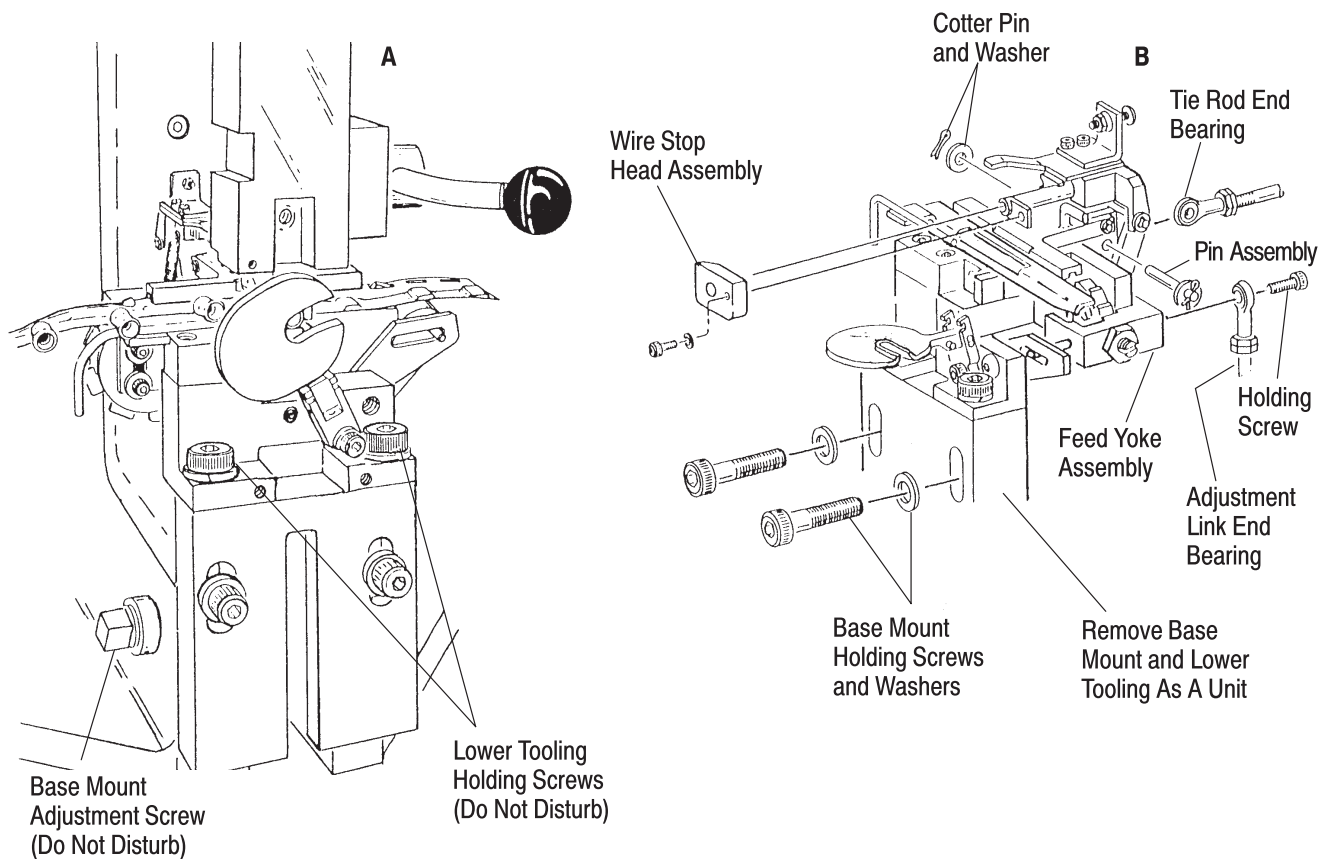
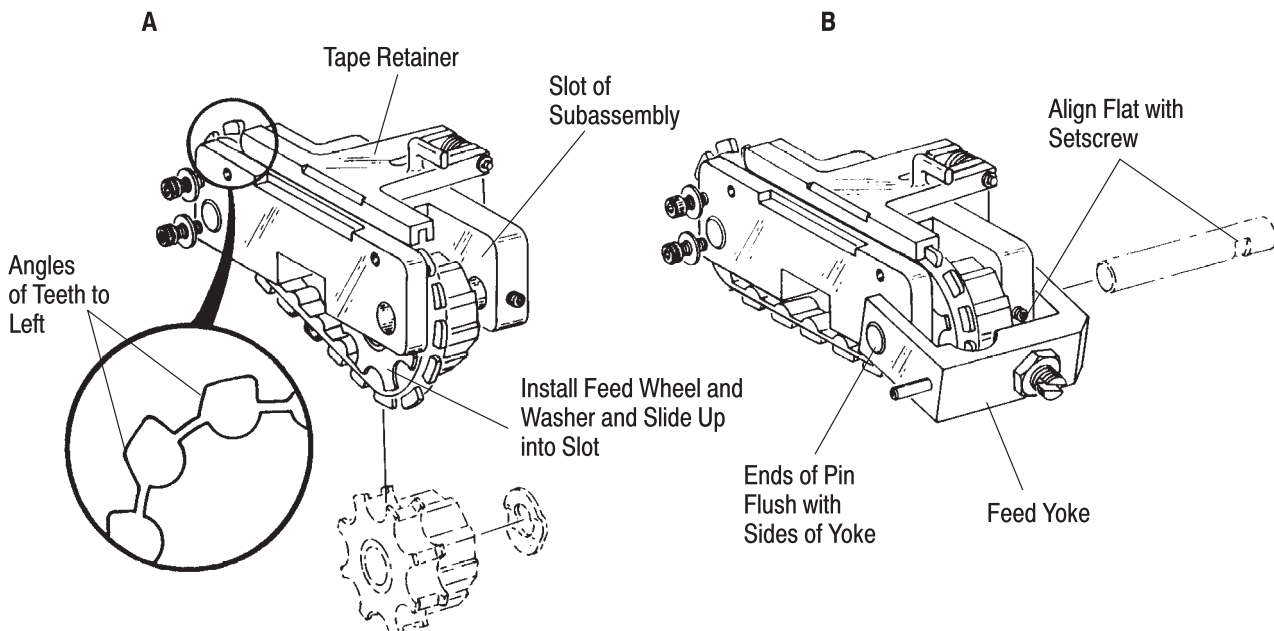

Figure 29
Figure 30
5. Remove one cotter pin and washer, then remove pin assembly from the tie-rod end bearing. Refer to Figure 29,B.
DO NOT disturb the lower tooling holding screws or the base mount adjustment screw, or damage to dies may occur. Refer to Figure 29,A. These screws are factory adjusted, and they control the die alignment and bottoming. If the screws are disturbed, contact an AMP Field Service Engineer, or call the Technical Assistance Center for alignment and adjustment.
7. Remove base mount holding screws and washers as shown in Figure 29,B, then remove the lower tooling as a unit, as shown.
8. Loosen screws (104) and remove the terminal guide (20).
9. Remove screw (103) and remove metal guard (31).
10. Remove screw (53) and washer (47), then remove wire stop support assembly (11) as a unit.
11. Remove front clamp plate (9) containing pin (117) by removing two screws (46) and washers (47), then remove spring (99) while sliding index unit subassembly off of slide mount (23).
12. Remove the belt holddown (34) by removing two screws (63) and washers (64).
13. Pivot the feed yoke assembly (42) downward to gain access to setscrew (72), then loosen the setscrew. See Figure 30, B.
14. Remove special pin (33), washer (54), and feed wheel (32) from the bottom of the subassembly.
15. Lift the tape retainer (18) and remove old tape feed belt (30).
16. Install new tape feed belt by lifting tape retainer on indexing unit, being sure that angled portion of the belt teeth are to the left of the indexing subassembly assembly as shown in Figure 30,A.
17. Slide the feed wheel, washer, and belt up into the slot of subassembly, then align pin holes and insert special pin. Align flat on pin with setscrew, then tighten the setscrew. The ends of the pin must be flush the sides of yoke, as shown in Figure 30,B.
18. Install belt holddown (34) with two screws (63) and washers (64).
19. Slide the indexing unit subassembly all the way onto slide mount (23): pin inside of yoke (42) must enter slot in connecting link (28).
20. Lay spring (99) in bottom recess in slide mount (23), then compress spring with screwdriver while installing front clamp plate (9) with two screws (46) and washers (47). Release spring to butt against pin (117) in clamp plate.
21. Slide the wire stop support assembly (11) onto slide mount (23) and install screw (53) with washer (47).
22. Install terminal guide (20) and tighten screws (104).
23. Install metal guard (31) with screw (103).
24. Install assembled base mount and lower tooling against machine base and secure with two screws and washers as shown in Figure 29,B. Refer to the CAUTION after Step 6.